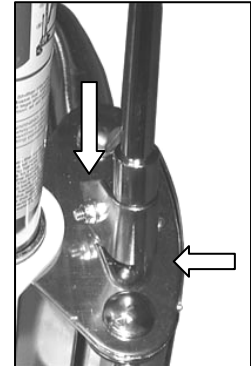

Figure 4: Spreader Bar Connected in Receptacle
STEP 5: (Figure 4) Insert the Spreader Bar (2) into the receptacle at the base of the Mast (12). Secure tightly with screw which is shipped “finger tight” in place on Invacare Lifter Base.